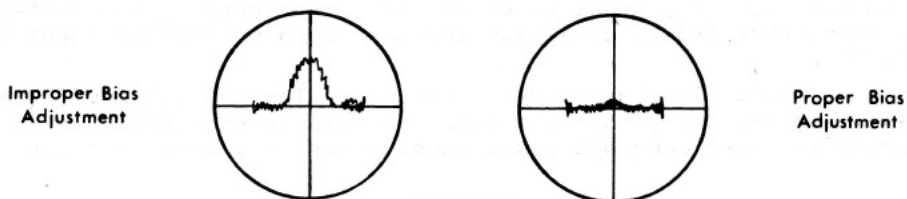

Figure 3
4. While observing the resultant distortion waveform, adjust the left channel bias pot VR601a so that the crossover distortion is at the point of being eliminated (class "AB"). NOTE: Class "A" operation (continued CW rotation) causes the output transistors to draw excessive current and consequently overheat. Refer to Figure 3 below.